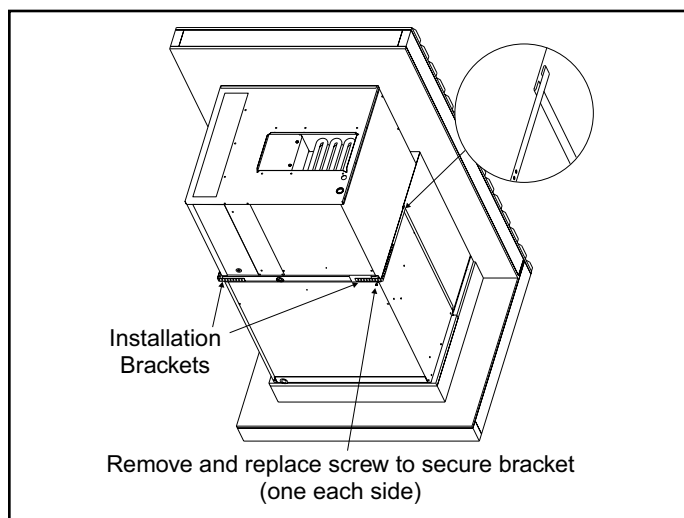

Figure 4. Securing Unit
- Use the two installation brackets to secure the unit to the wall sleeve (see Figure 4). The units are shipped with the brackets placed in the return air compartment. Hook each bracket into the front edge of the wall sleeve side. Position the bracket so it can be bent around the front corner of the unit. Remove one of the two screws in that position on the unit. Line up one of the holes in the installation bracket with the screw hole and attach the bracket to the unit with that screw. Make sure to fasten tight enough that the seal is maintained. Trim off excess bracket if applicable.